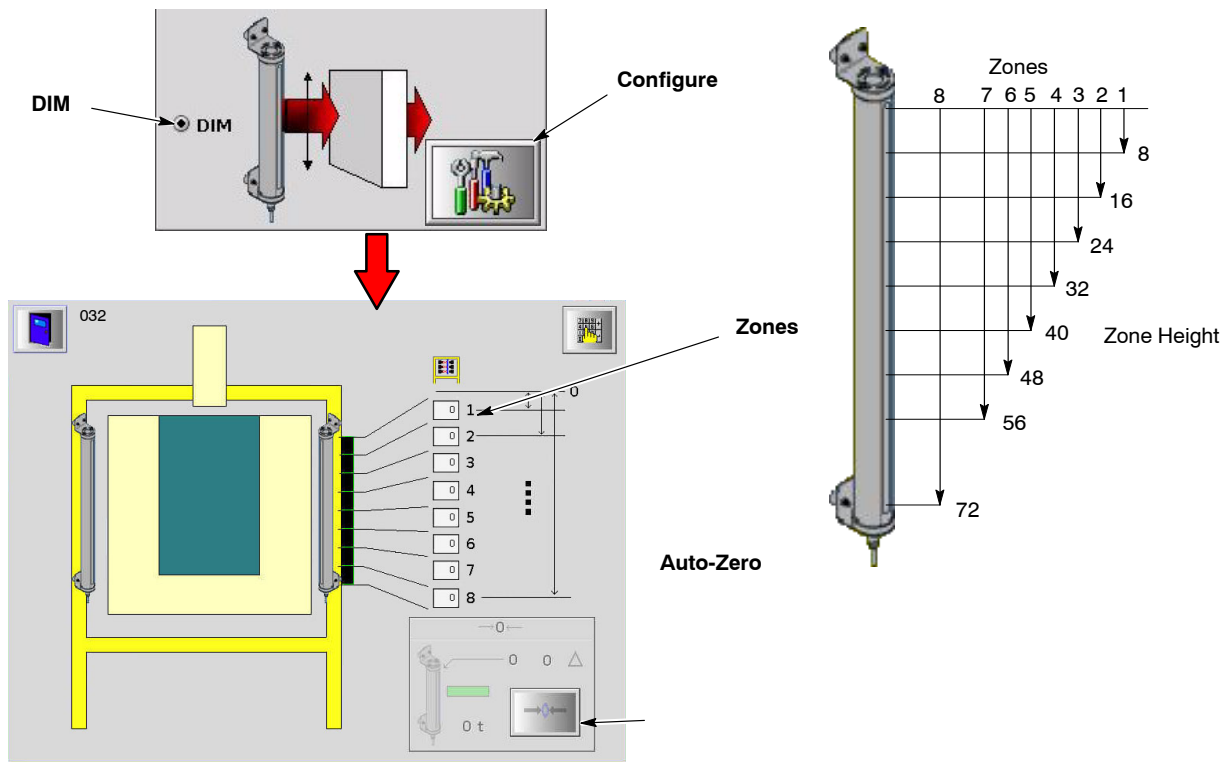

Figure 3-9 Configuring Analog Scanners for Zone Detection
1. See Figure 3-9. Select the **DIM** radio button, then the **Configure** button. The Analog Zone Scanner screen opens.
See Figure 3-9. This function is only available to Nordson CSRs. It allows you to tune out a valid signal from Zone 1, such as when you want to ignore part carriers or hangers. This function is not the same as the noise filtering setting explained in *Section 4, Analog Scanner Configuration*.